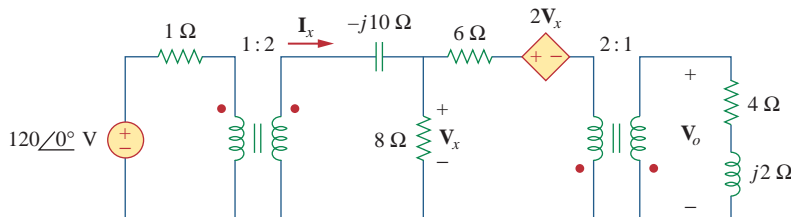

Figure 13.144
13.83 Find I_x and V_x in the circuit of Fig. 13.144 using PSpice.